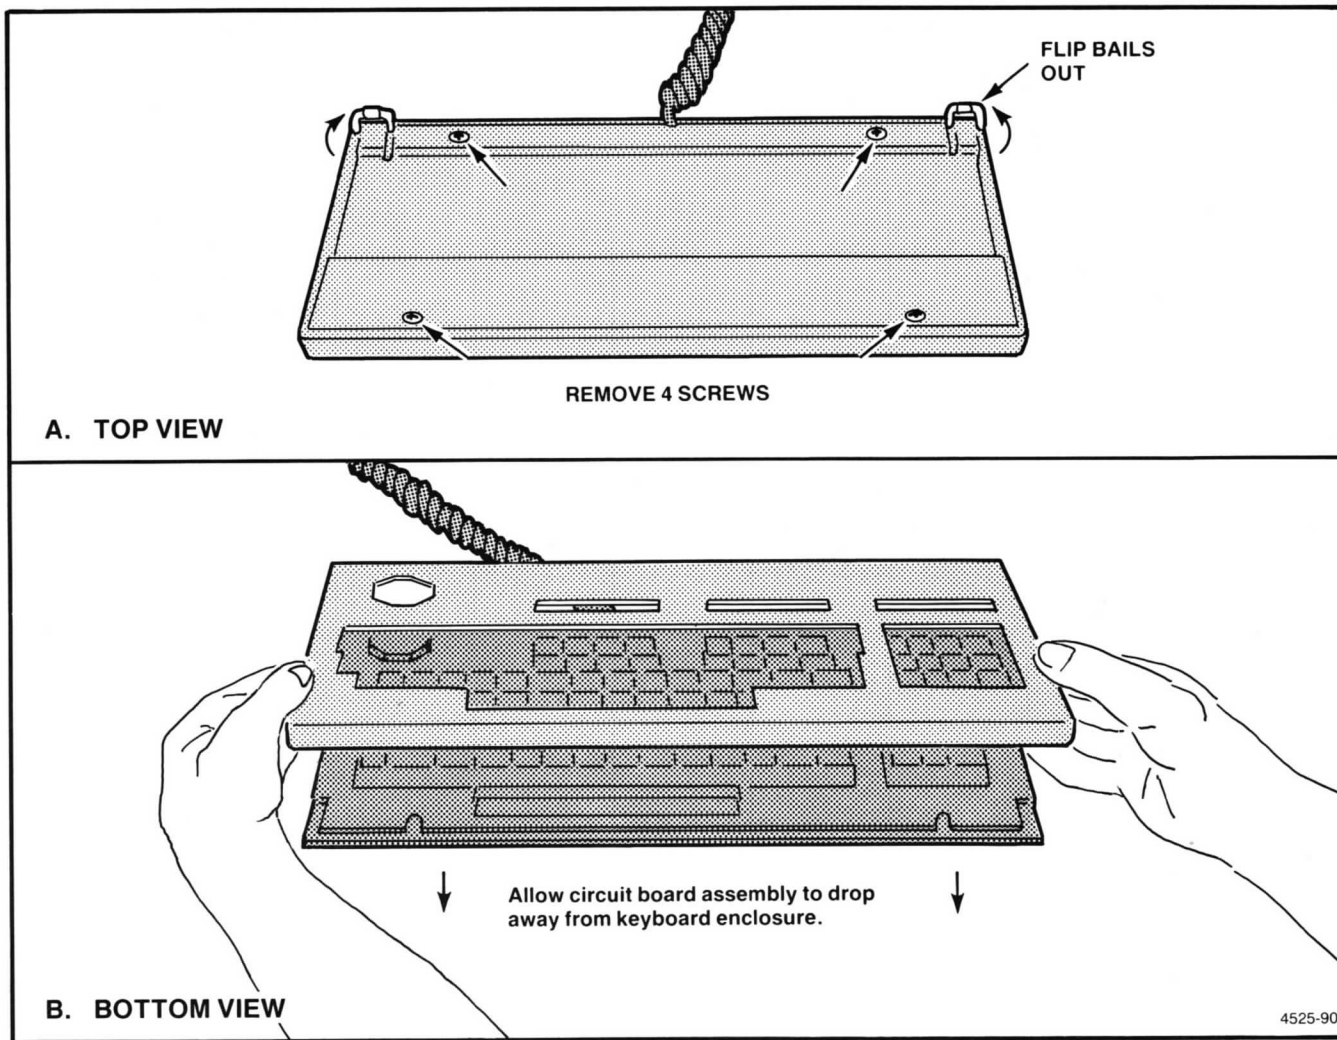

Figure 6-14. Separating the Keyboard Enclosure from the Keyboard and Bottom Panel.
2. Unscrew the four screws in the corners of the keyboard bottom panel. See Figure 6-14.
3. Flip the elevating bails outward, as in Figure 6-14.